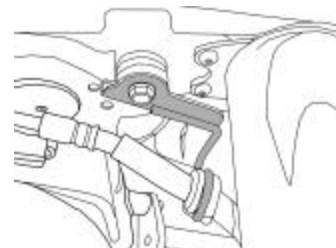

FIGURE 2: BRAKE HOSE MOUNT
9. It may be necessary to have additional help from someone to hold the windshield lower brackets in place while installing the light bar. Install the light bar over the top of the windshield lower brackets, center the one clearance hole in the light bar bracket over the button head bolt remaining in the fork housing, see Figure 2. Once the light bar is in place reinstall the four button head bolts and torque to 14-19 Nm (10-13.5 ft-lbs).